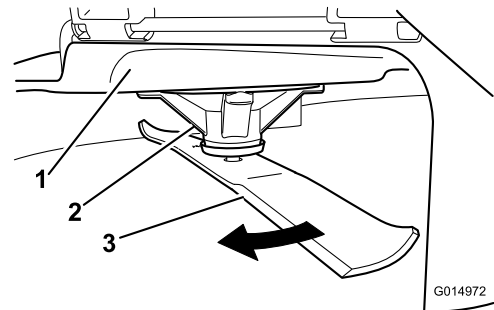

Figure 107
2. While wearing thickly padded gloves, or other adequate hand protection, slowly rotate the blade into a position that allows you to measure the distance between the cutting edge and the level surface the machine is on (Figure 107).